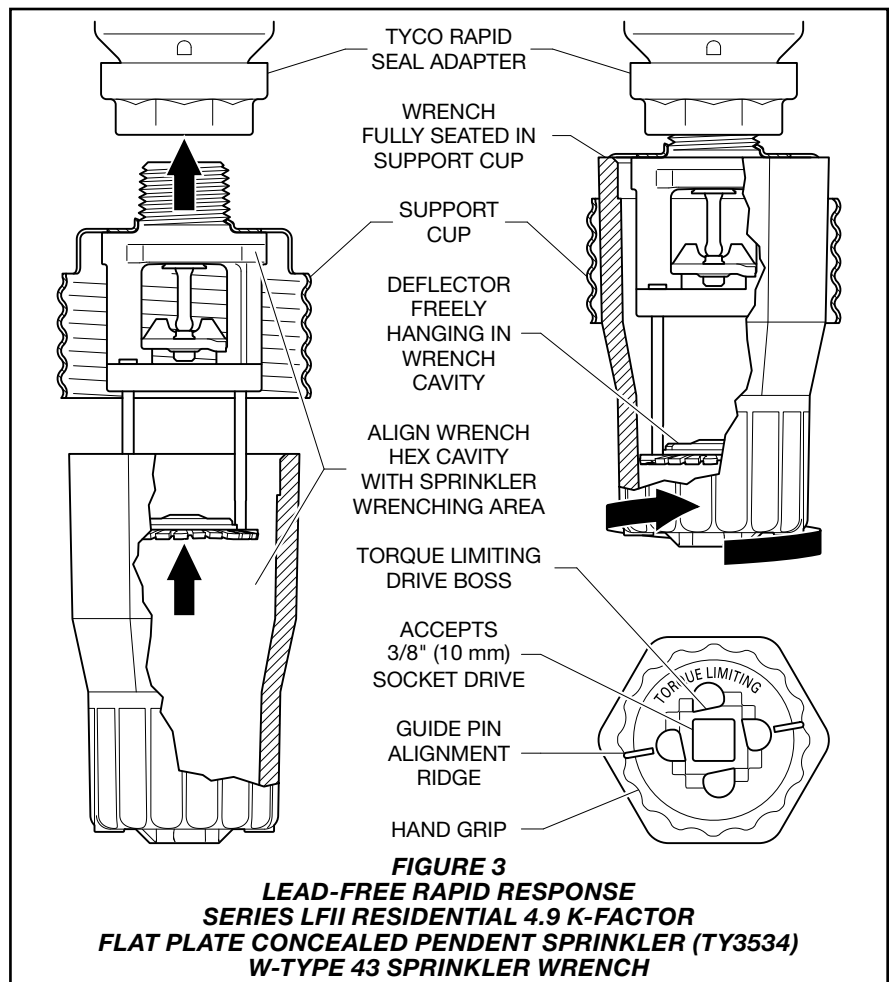

FIGURE 3
Step 4. Orient the sprinkler as needed by applying the W-Type 43 wrench as shown in Figure 3 to the sprinkler wrench flats, and tighten up to an additional full turn, or by applying up to a maximum torque of 7 lb-ft (9,5 N·m).